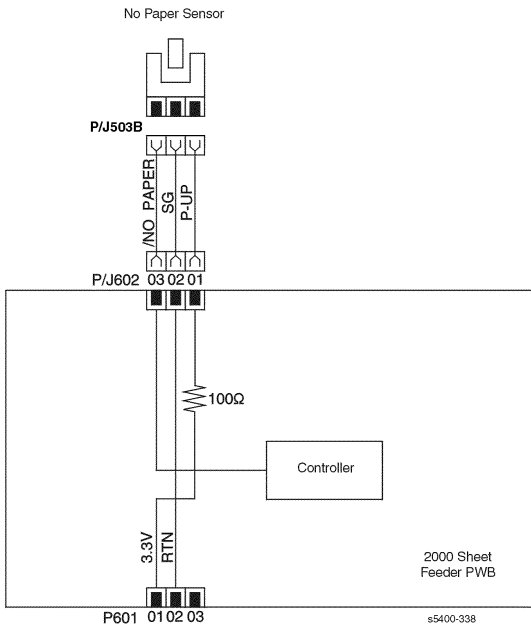

Figure 218 2000-Sheet Feeder PWB ↔ No Paper Sensor
- Figure 218 2000-Sheet Feeder PWB <=> No Paper Sensor (page 470)